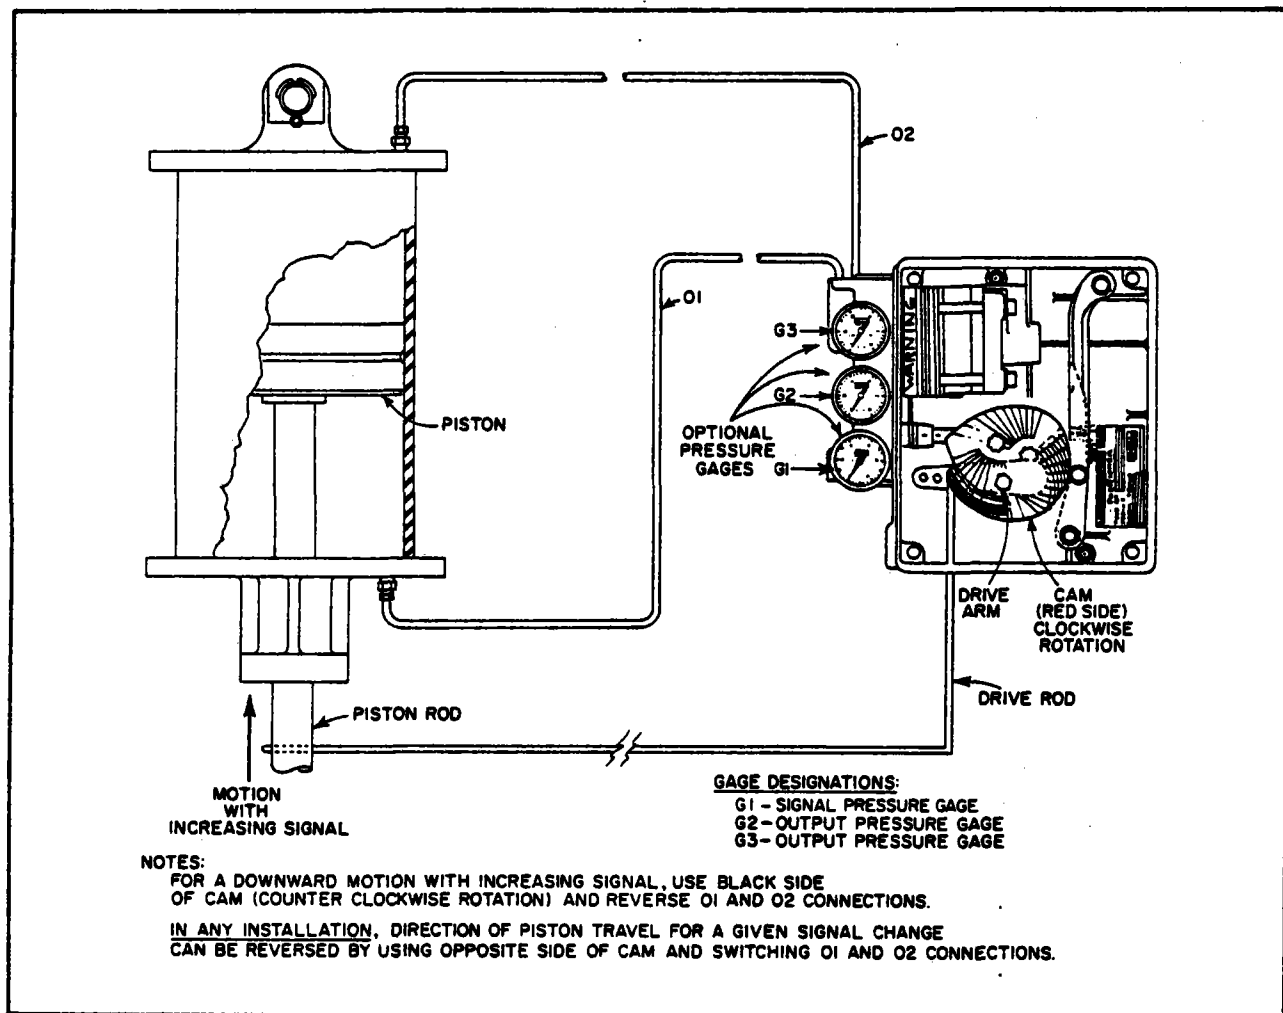

FIGURE 2 - Typical Positioner Installation Mounted on Double-Acting Cylinder
In any installation, the direction of piston travel for a given signal change can be reversed by using the opposite side of the cam and reversing the O1 and O2 output connections (Figure 2).
If the Positioner is included with a double-acting cylinder assembly, tubing connections between the Positioner and the power operator would be as illustrated in Figure 2. Pressure gages are optional and are not included unless specified when ordering Positioner.
3. If optional pressure gages were furnished, make certain gages are installed in correct location for application (Figure 2 or 3) and all connections are tight. Check for leakage, while under pressure, with soapsuds solution.